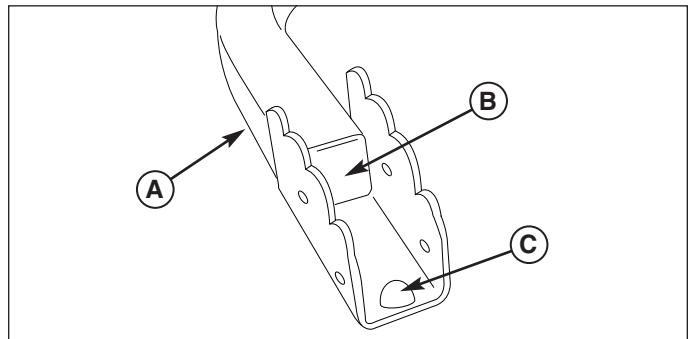

Figure 7. Assemble the Top Loop
1. Install the plastic cap (B, Figure 7) into the end of the top loop tube (A). Repeat for other end of tube.
2. Install the rubber stop (C) against the inside of the pivot mount. Repeat for other end of tube. See Figure 7.